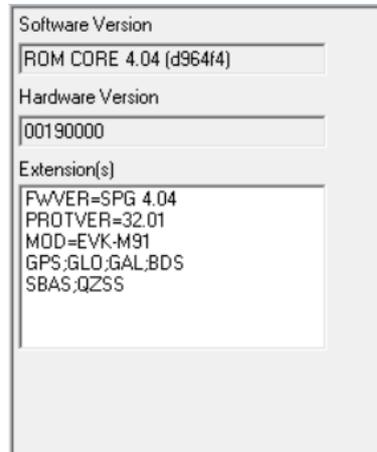

Figure 9: Checking EVK-M91 firmware version from u-center
6. Poll UBX-MON-VER again to verify the firmware and see the EVK-M91 booting from the ROM firmware as shown in Figure 9.